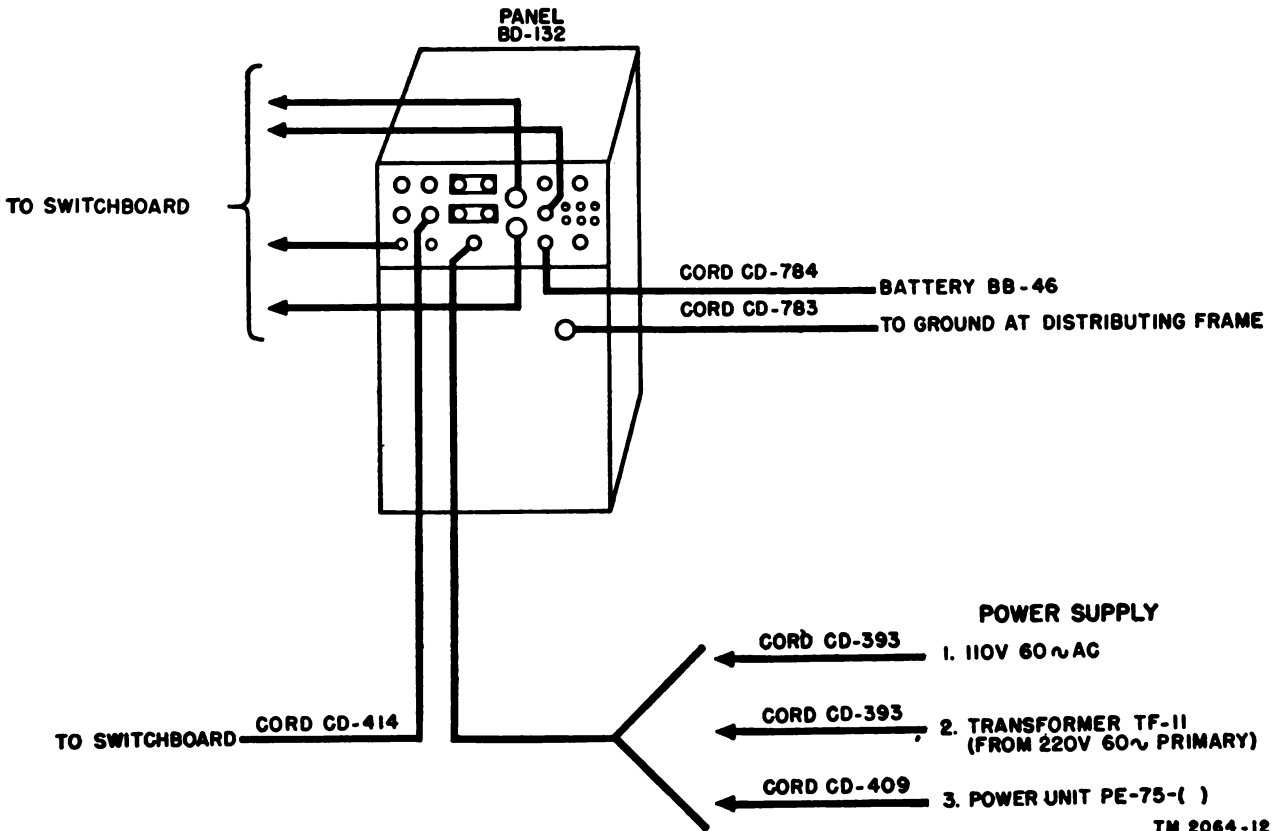

Figure 16. Panel BD-132, interconnected with accessory equipment.
b. CORD CONNECTOR PANEL. Cording runs from the cord connector panel at the rear of Panel BD-132 (fig. 3). A block diagram, Panel BD-132 interconnected with accessory equipment, is shown in figure 16.
d. **GROUNDING.** Grounding is usually accomplished through the central office distributing frames group, connection for the ground at the panel being made with Cord CD-783 as shown in figures 16 and 17.